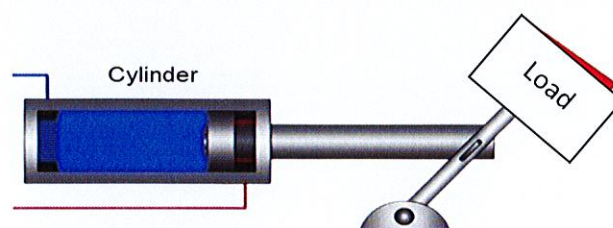

Figure 4(c) / Rajah 4(c)
- CLO2 (c) Illustrate the hydraulic circuit to control the speed of push movement as shown in Figure 4(c) below.